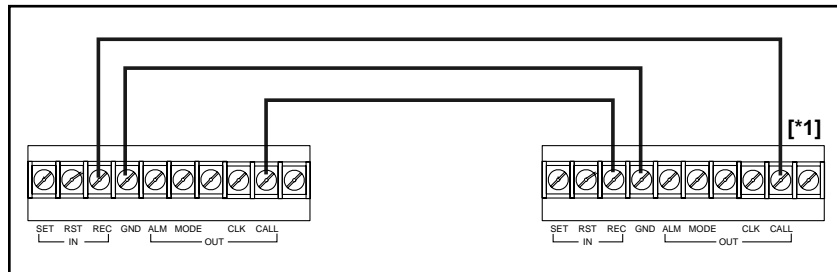

Figure 19. Connecting VCRs in Series
- *When set in the above configuration and the second VCR reaches the end of the tape, the first VCR automatically begins recording. Connect the line marked by [*1] in Figure 19 only if you want the first VCR to begin recording again. If not, do not connect it.*